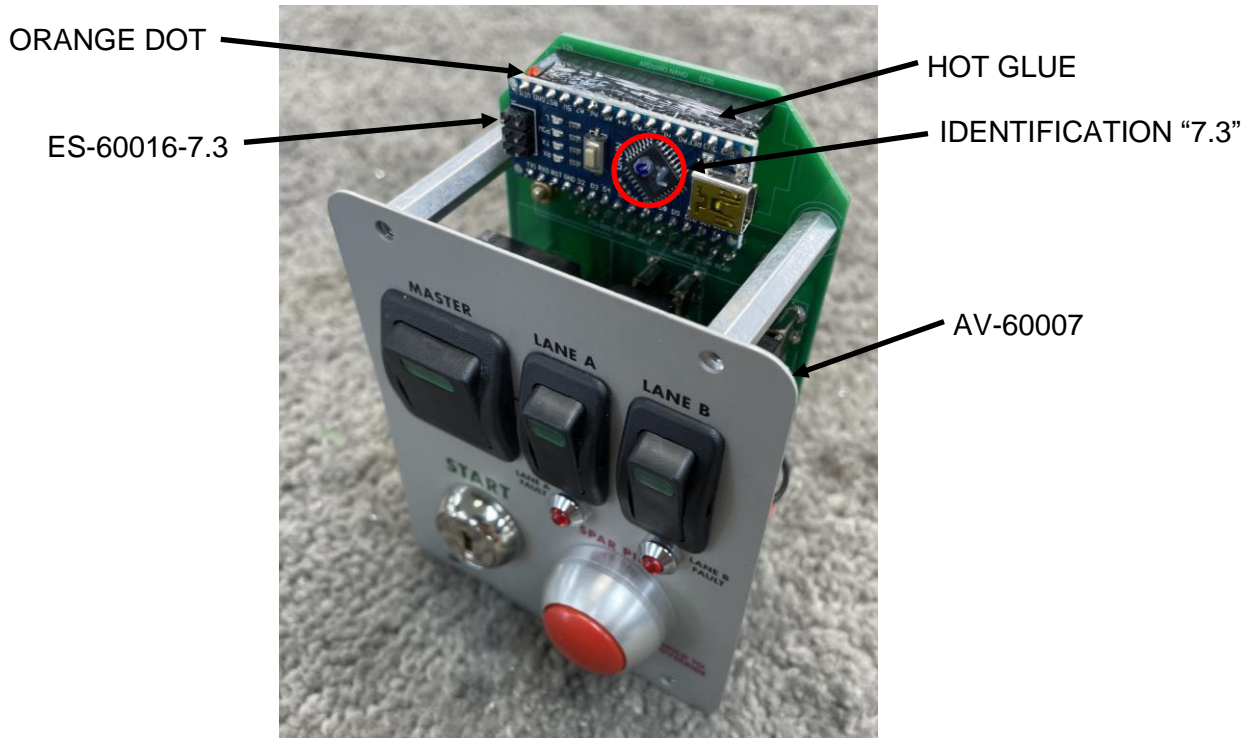

FIGURE 1: AV-60007 IGNITION MODULE
Step 3: Remove the ES-60016 microcontroller from the AV-60007 Ignition Module. See Figure 1.
Step 4: Install the ES-60016-7.3 microcontroller on the AV-60007 Ignition Module with the orange dot facing up. See Figure 1.
NOTE: The ES-60016-7.3 can be identified by “7.3” written on the microcontroller chip, as shown in Figure 1.
Step 5: Apply a strip of hot glue across the top of the ES-60016-7.3 and AV-60007 as shown in Figure 1. The hot glue must bridge across both components to retain the ES-60016-7.3.